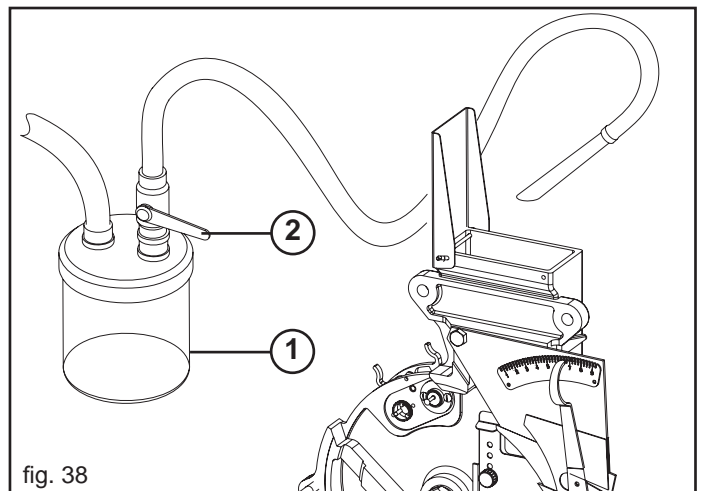

fig. 38
The machine is equipped with a seed aspirator (Fig. 38), which recovers the unutilized amount of seeds left in the seed tank, when seeding is over.
Open the valve (2, Fig. 38) downline of the recovery box (1) and fit the pipe end in the seed tanks. Stop the tractor and engage the parking brake before starting the PTO for seed aspiration.